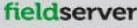

Figure 16. Web Configurator Showing no Active Profiles
- To add an active profile to support a device, click the Add button under the Active Profiles heading (see Figure 16). This will present a profile drop-down menu underneath the Current profile column.